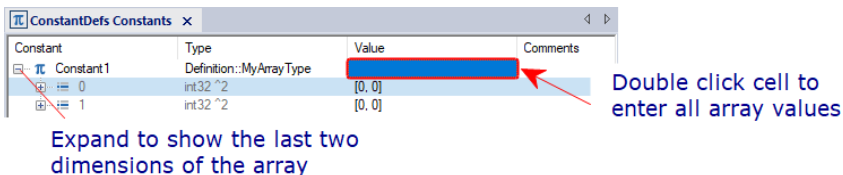

Figure 3.41: Setting the value of two-dimensional array constant in a table
- Expand the array structure of the constant to display a two-dimension data array level (TypeIDⁿ^p) as shown below in Figure 3.41.